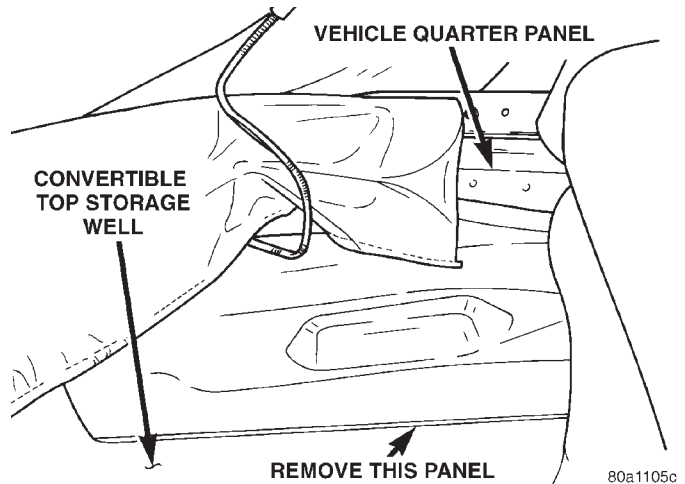
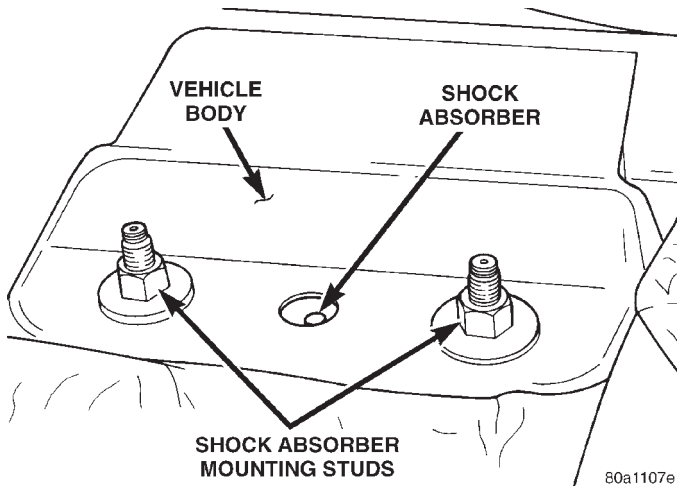
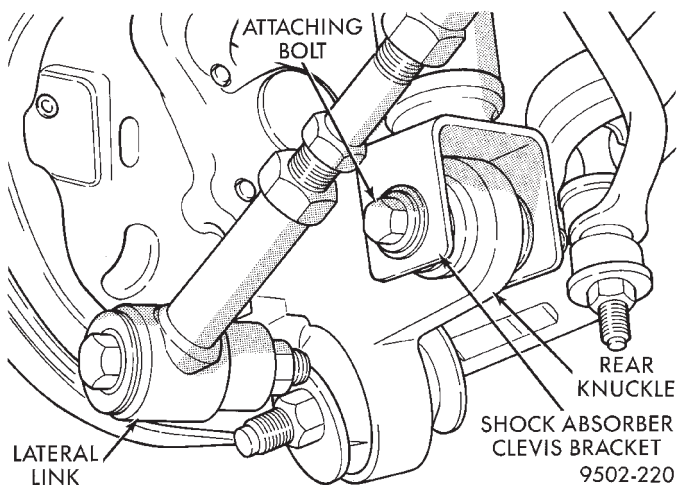
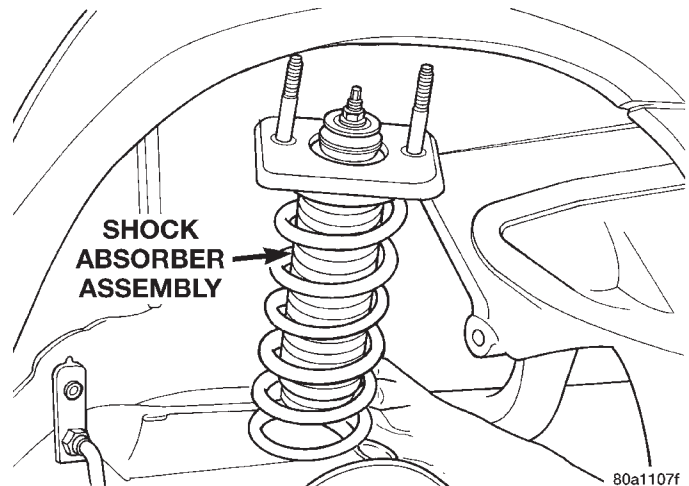

Fig. 2 Access Panel
Fig. 3 Shock Absorber Upper Mount Attaching Nuts
Fig. 4 Shock Absorber Attachment To Knuckle
Fig. 5 Shock Absorber Removal
(1) Remove the plastic access panel (Fig. 2) in the convertible top storage well. Refer to Group 23 Body in this service manual, for the required procedure to remove the access panel.
(2) Roll back the sound matting in the corner of the convertible top storage well to access the shock absorber attaching nuts.
(3) Remove the 2 nuts (Fig. 3) attaching the shock absorber upper mount/spring seat to the body of the vehicle.
(4) Raise vehicle on jackstands or centered on a frame contact type hoist. See Hoisting in the Lubrication and Maintenance section of this manual, for the required lifting procedure to be used for this vehicle.
(5) Remove the rear wheel and tire from the vehicle.
(6) Remove bolt attaching shock absorber to rear knuckle (Fig. 4).
(7) Remove the shock absorber from the vehicle using the following procedure: First remove the shock absorber from the rear knuckle. Then remove the shock absorber upper mount from the body of the vehicle. For the required clearance to remove upper mount from body it may be necessary to push down on the rear suspension.
(8) Move shock absorber downward and tilt top of shock outward. Then remove shock absorber from vehicle through top of wheel opening (Fig. 5).
(1) Install shock absorber back in vehicle using the reverse sequence of removal (Fig. 5).
(2) Install upper shock absorber mount into the mounting holes in rear shock tower.
(3) Push down on rear knuckle to obtain clearance and then install shock absorber clevis bracket on rear knuckle.
(4) Align clevis bracket on shock absorber with bushing in knuckle. Install and tighten bolt (Fig. 4) to a torque of 95 N·m (70 ft. lbs.).
(5) Lower vehicle far enough to gain access to the passenger compartment of the vehicle.
(6) Install and tighten the 2 shock absorber mounting bracket attaching nuts (Fig. 3) to a torque of 54 N·m (40 ft. lbs.).
(7) Install the sound matting over the top of the shock absorber attaching nuts.
(8) Install the plastic access panel (Fig. 2) in the convertible top storage well. Refer to Group 23 Body in this service manual, for the required procedure to install the access panel.
(9) Install wheel and tire assembly on vehicle. Then torque all wheel mounting stud nuts in proper sequence until all nuts are torqued to half specification. Then repeat tightening sequence to full specified torque of 135 N·m (100 ft. lbs.).
(10) Lower the vehicle to the ground.